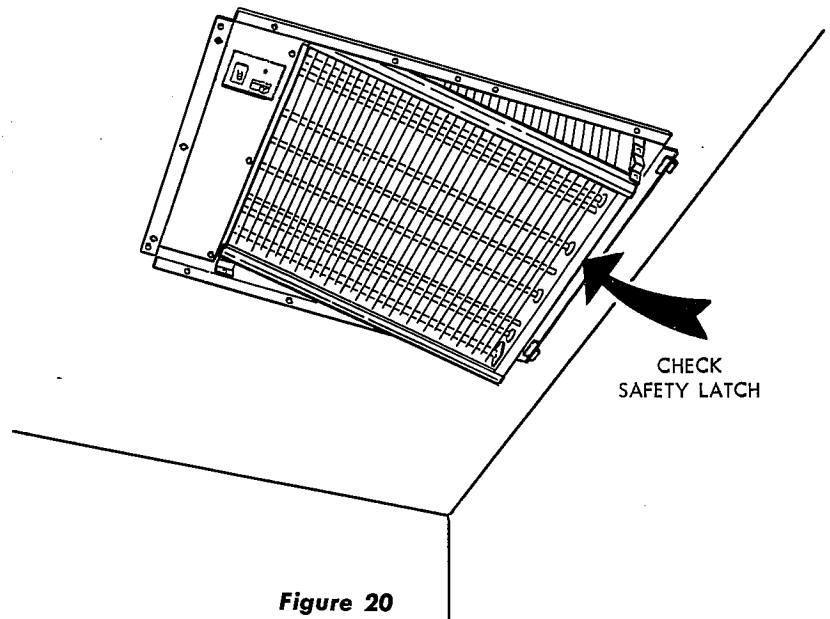

Figure 20
**CAUTION:** When installing the cell on ceiling installations, make sure it is latched securely in cell frame before releasing it. (See figure 20.)
**CAUTION:** When installing the cell in a ceiling installation, make sure it is latched securely in place before releasing it (Figure 20).